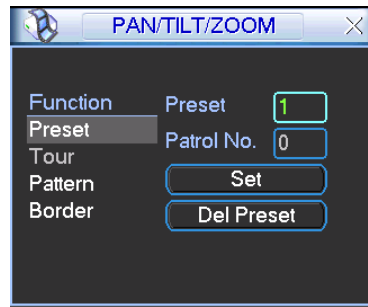
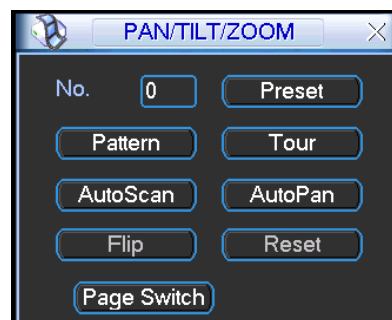
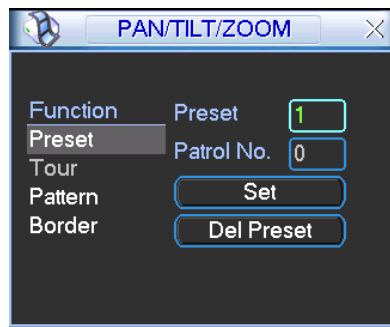
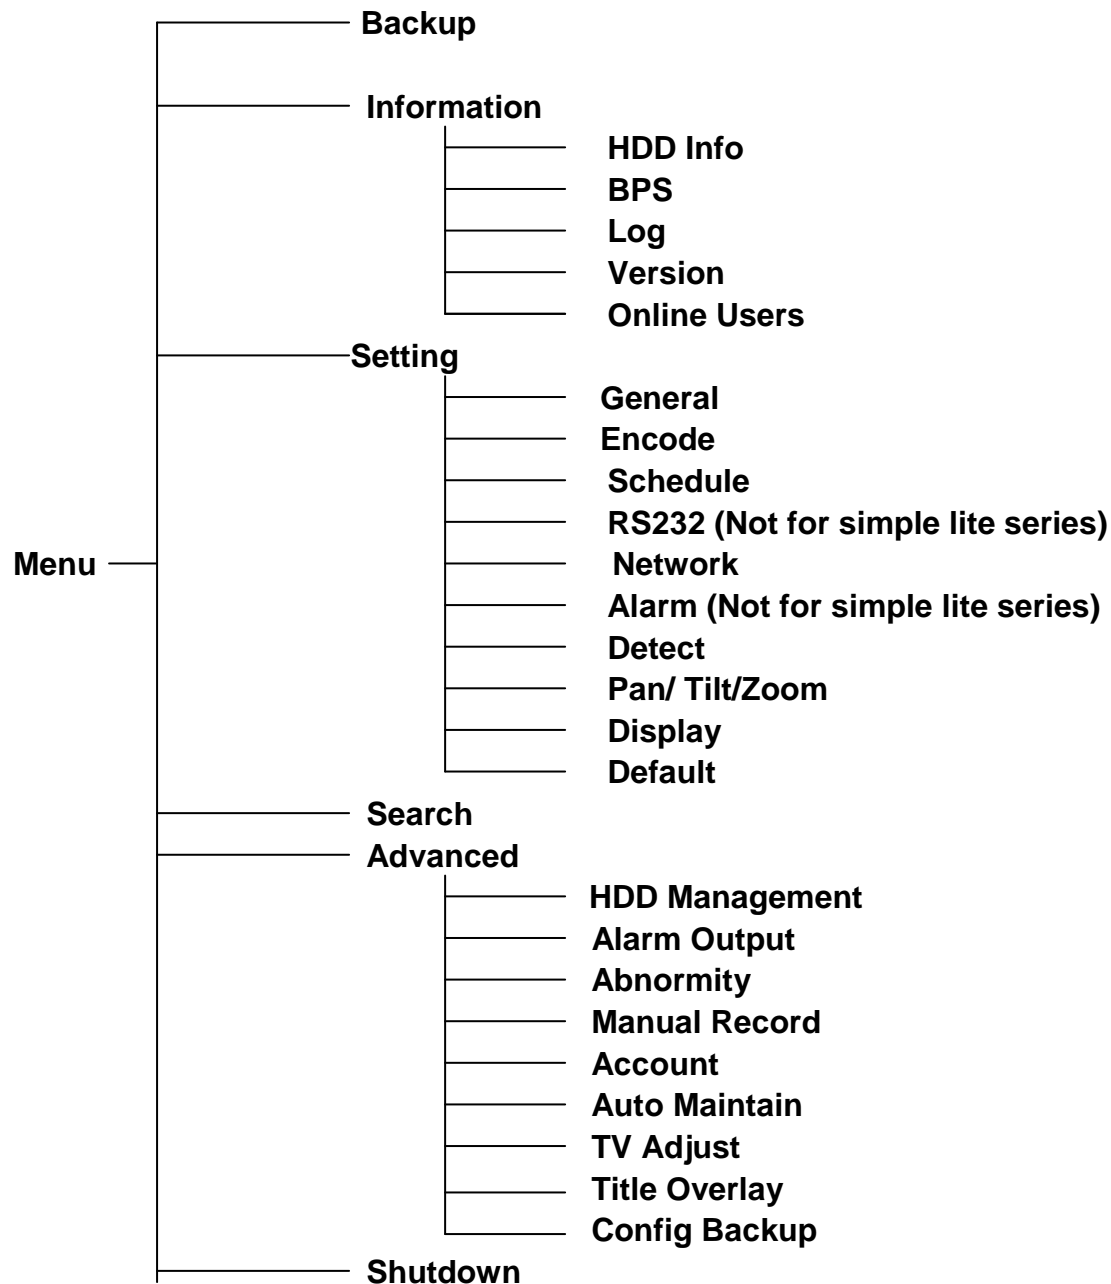

Figure 4-39
Figure 4-40
Figure 4-41
Figure 4-45
In Figure 4-36, please click the “set” button. The interface is shown as below. See Figure 4-39. Here you can set the following items:
In _ Figure 4-36, click page switch button, the interface is shown as in Figure 4-40.
- The following setups are usually operated in the _Figure 4-36, Figure 4-39 and Figure 4-40.
In Figure 4-39, click preset button and input preset number. The interface is shown as in Figure 4-41.
In Figure 4-40, please input preset number in the No. blank, and click preset button.
In Figure 4-39, input patrol (tour) number in the No. blank and click patrol button
In Figure 4-39, click pattern button and then click "begin" button. The interface is shown as in Figure 4-43. Then you can go to Figure 4-36 X to modify zoom, focus, and iris.
In Figure 4-39, input mode value in the No. blank, and click pattern button.
In Figure 4-40, click "Auto Scan" button, the system begins auto scan. Correspondingly, the auto scan button becomes Stop button. Click stop button to terminate scan operation.
In Figure 4-40, click page switch button, you can see an interface is shown as below. See Figure 4-45. Here you can set auxiliary function. The aux value has relation ship with the Aux button of the decoder.